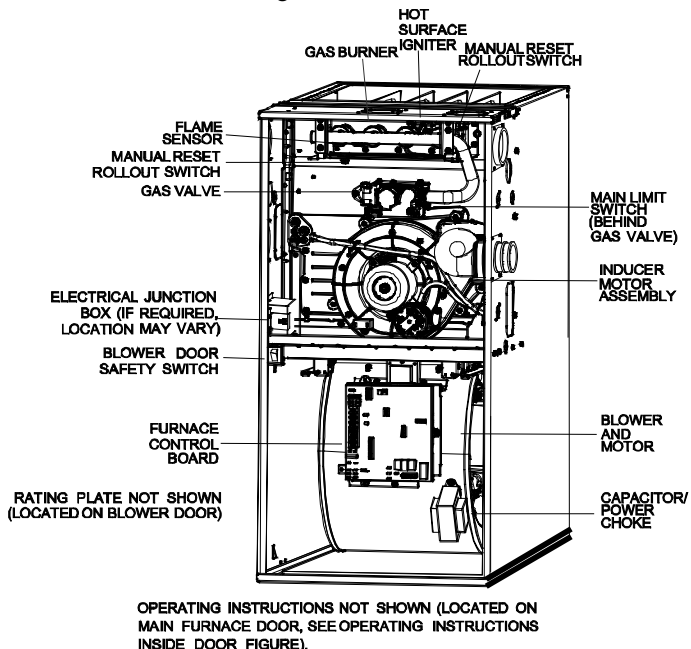
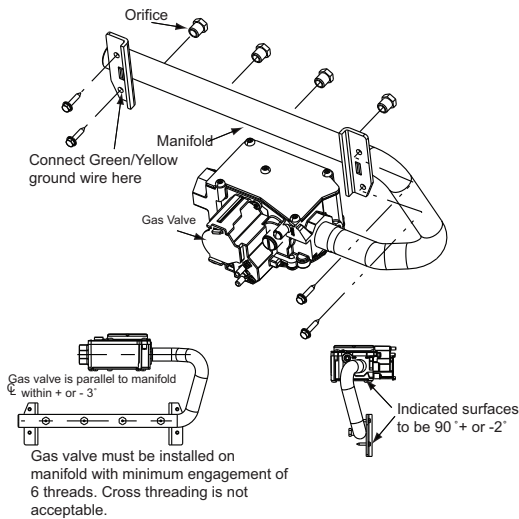

Fig. 1 – Representative Furnace Drawing MANIFOLD/ORIFICE/BURNER REMOVAL
Fig. 2 – Manifold Assembly
1. Disconnect the gas pipe from gas valve and remove pipe from the furnace casing (see Fig. 1)
3. Support the manifold and remove the four (4) screws that secure the manifold assembly to the burner box and set aside.
4. Note the location of the green/yellow wire ground wire for re-assembly later (see Fig. 2)